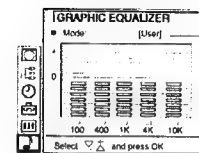

Fig. 34
- 1 Select «Sound Control» in the main menu, then select «Graphic Equalizer» using Δ or ∇ and press OK. The GRAPHIC EQUALIZER menu appears (See Fig. 34).